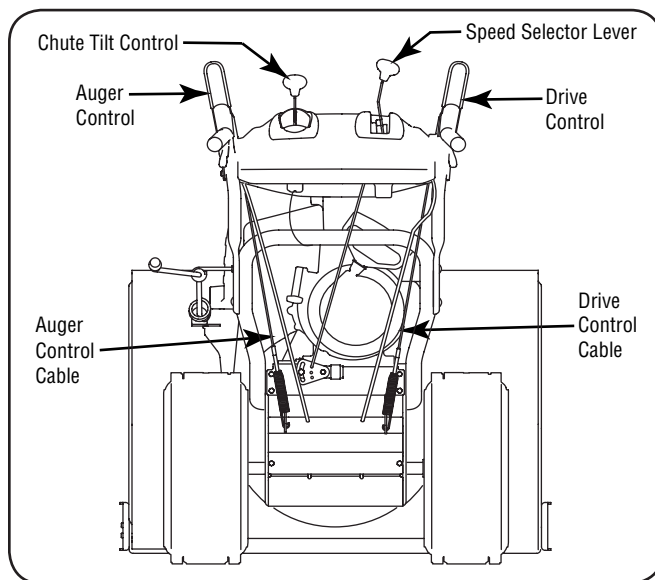

Figure 3-11
1. When the auger control is released and in the disengaged “up” position, the cable should have very little slack. It should NOT be tight. Refer to Figure 3-11.
1. With the engine turned off, move the speed selector lever into sixth (6) position. Refer to Figure 3-11.
1. From beneath the handle, pull downward on the appropriate cable and unhook the spring found on the end of the cable from its respective actuator bracket. Refer to Figures 3-11 and 3-12.